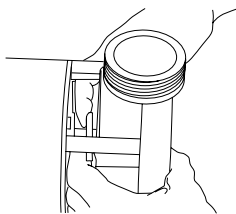

Figure 6
5. Impeller shim(s) (if used) go over threaded shaft end against shaft shoulder. Be sure to replace all shims for correct impeller spacing. Screw impeller onto shaft until it seats against shaft shoulder. Work slinger over end of impeller sleeve so it rides on sleeve (Figure 6).